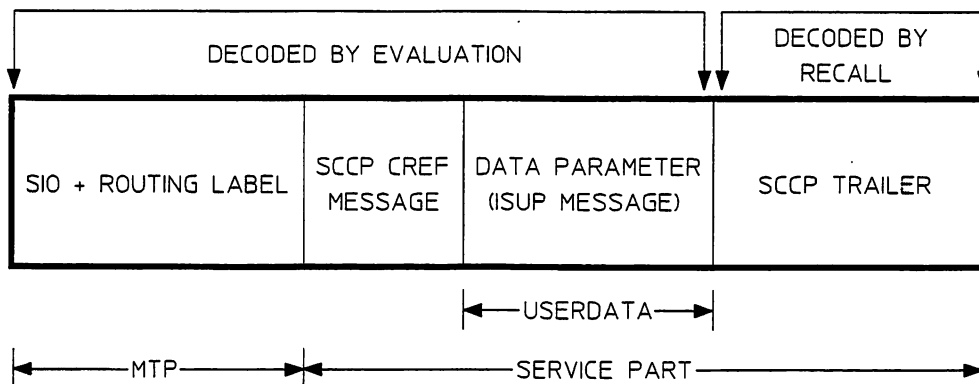

Figure 7-1. SCCP Structure
- a. **g_octet_number** set to the NEXT octet to be decoded, which is the first octet of the Data parameter (see Figure 7-1).